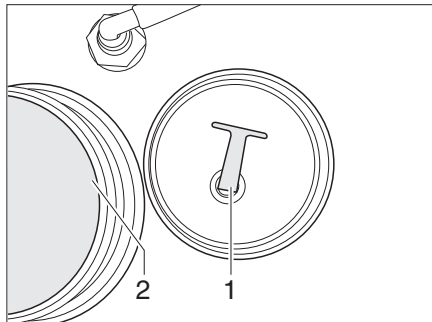

Fig. 153 Water tank
- Unscrew the cap (Bild 153,2) on the water tank.
- Screw out the stopper (Bild 153,1) from the drainage opening. The water drains off.